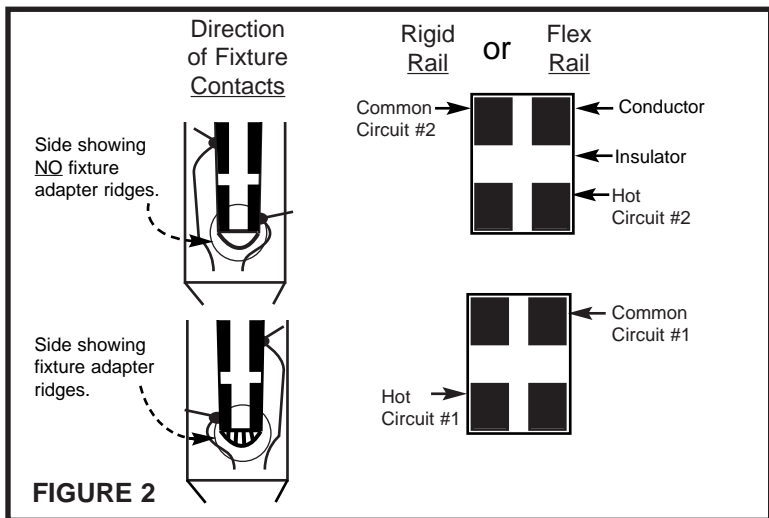

FIGURE 2
**CAUTION:** Be certain to align the mounting adapter to the correct circuit. Each adapter has identifying ridges indicating the proper circuit location (See Figure 2).